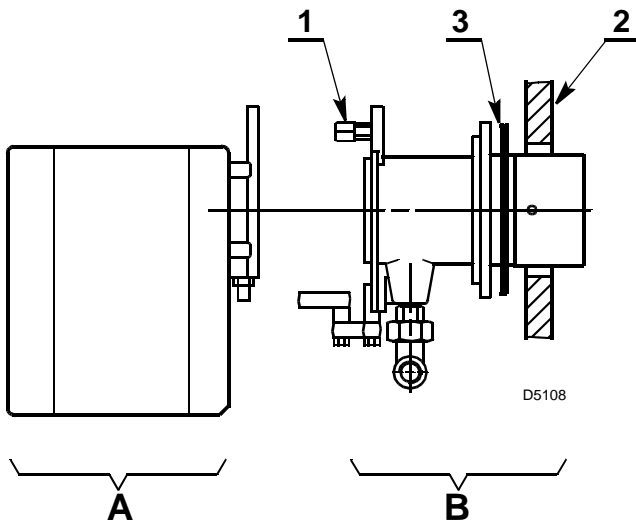

Fig. 6
- Separate the combustion-head assembly from the burner body by removing nut (1) and removing group (A) Fig. 6.
- Fix the head assembly group (B) Fig. 6 to the boiler (2) insert the supplied insulating gasket (3).